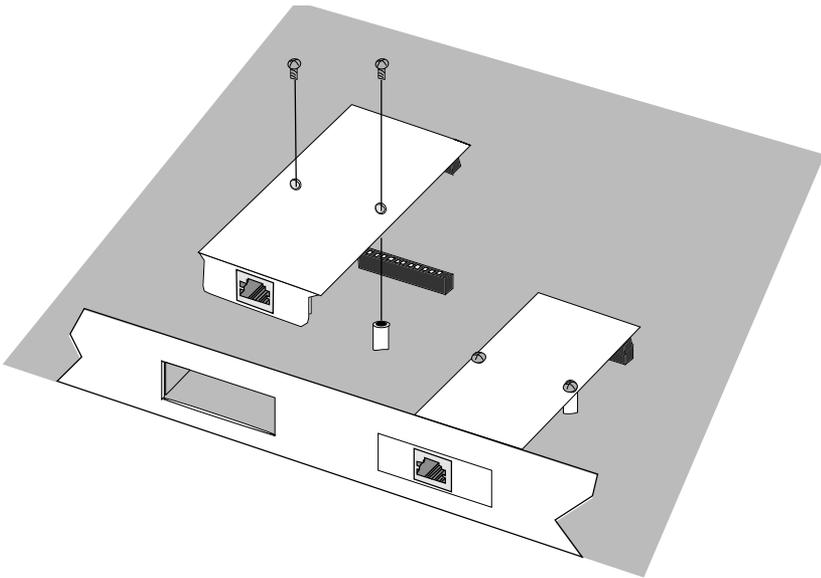

Figure 3-1 Installing an FPIM
3. Install the FPIM as shown in Figure 3-1. Ensure that the rear connector is seated firmly before tightening the two mounting screws.